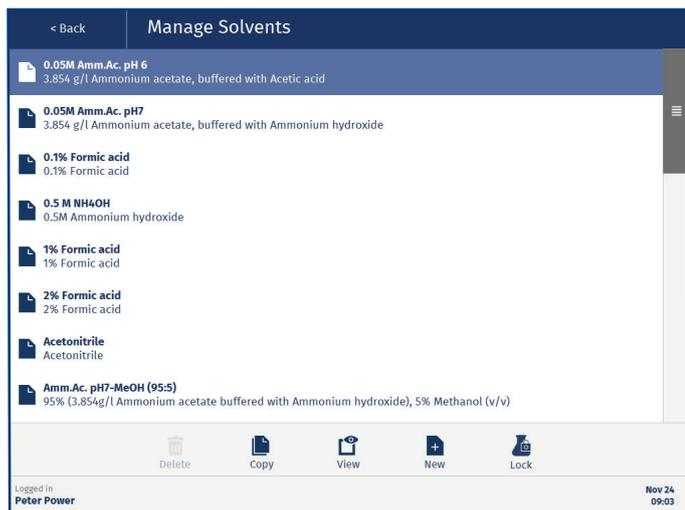

Figure 37. The Manage Solvents view.
1. Press **Lock** in the **Manage Solvents** view (see Figure 37).